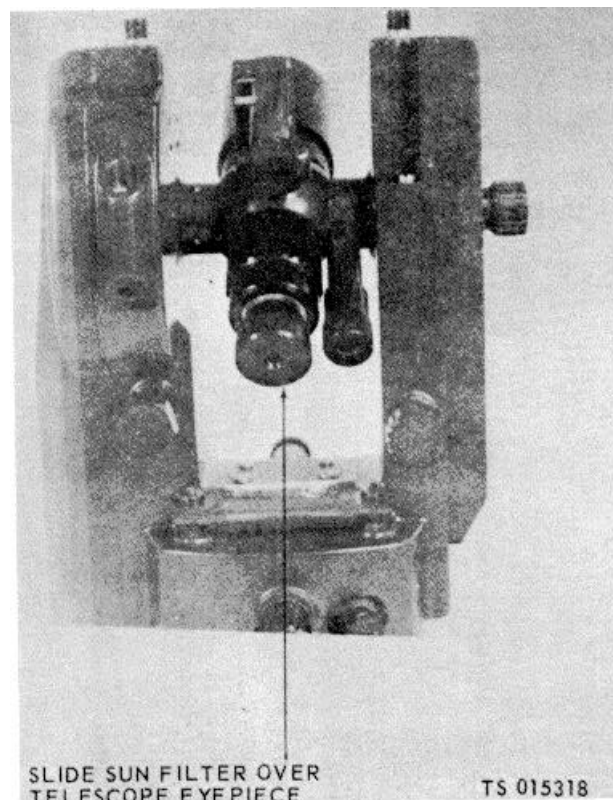

Figure 2-11. Sun filter, installation.
- (2) When sighting on the sun without the prismatic eyepiece, install telescope sun filter (fig. 2-11).